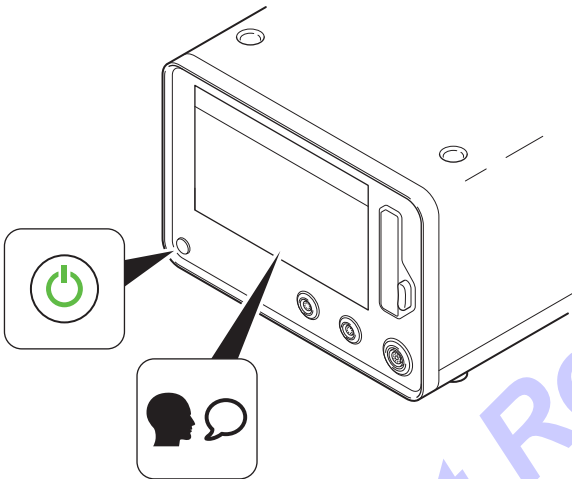

Figure 24 – Initial Language Selection
5. Push the power button to indicate a ready for use (green) mode of operation (Figure 24).
6. Select the appropriate display screen language (Figure 24).